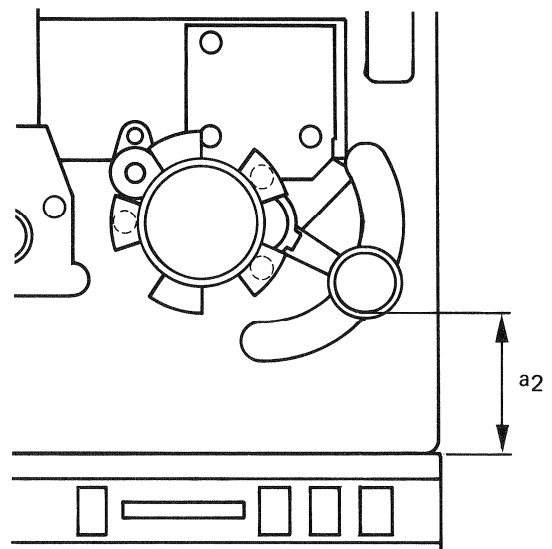

Fig. 5.3.-2
- Left-hand tension sensor: adjust potentiometer R3 (fig. 5.3.-1) until the distance  $a_1$  from the upper edge of the press button rail to the sensing arm is 46 mm (1 13/16").
- Right-hand tension sensor: adjust potentiometer R3 (fig. 5.3.-2) until the distance  $a_2$  from the upper edge of the press button rail to the sensing arm is 50 mm (1 31/32").